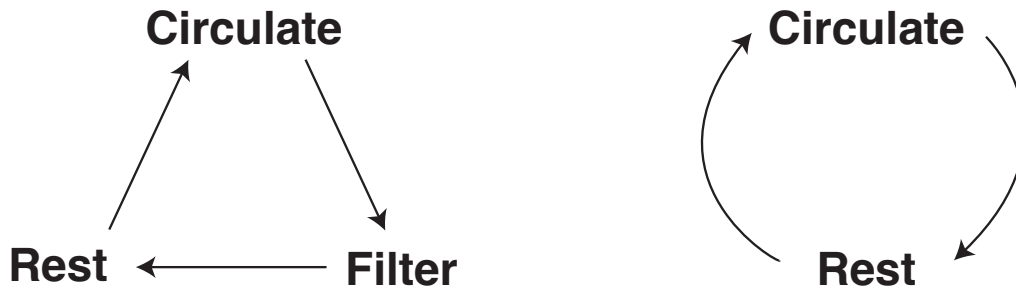

Fig. 4.7 - 1 - Standby Cycle function loop in Tank Feed (left) and Direct Feed (right) operating modes
- a. **Standby Cycle** – Occurs when there is no tunnel signal. The cycle is a loop of functions that will run when no tunnel signal is present (Fig 4.7 - 1). The cycle depends on the operating mode selected.